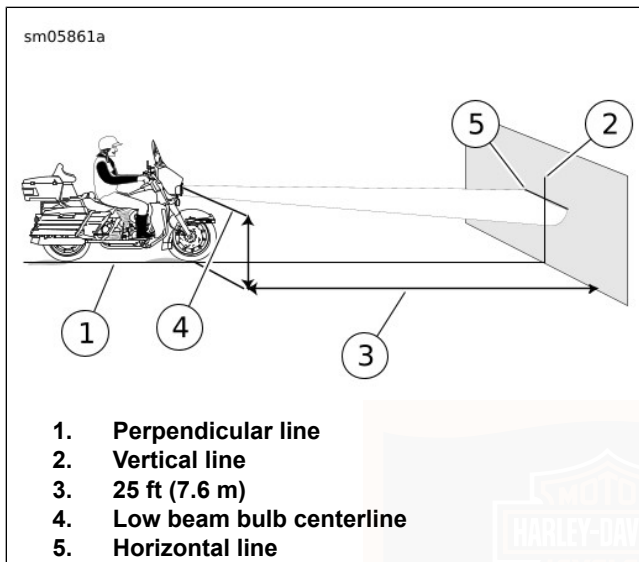

Figure 83. Headlamp Alignment: LED Type (typical)
- b. **LED, fork-mounted fairing:** See Figure 83. At the measured distance.
- b. **LED, fork-mounted fairing:** See Figure 83. Top of hot spot at mark with headlamp set to **low beam**.